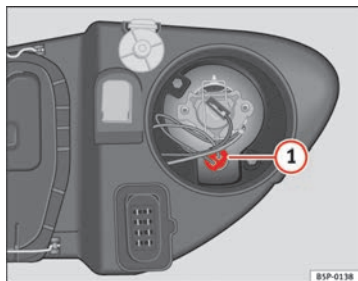

Fig. 170 Side lights
- Extract the bulb holder ⇒ fig. 170 **1** outwards.